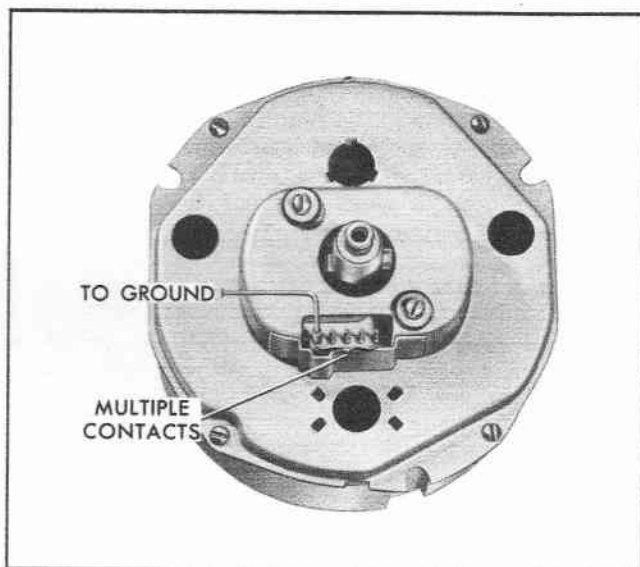

Fig. 3 Speedometer Multiple Contacts
2. If all the speed positions are not inoperative, then failure of the grounding contacts is quite possible. Before removing the speedometer, place individual jumpers between the line connector and the speedometer multiple contacts. (See Fig. 3). If the operation is normal during the road test, the trouble is in the connector contacts.